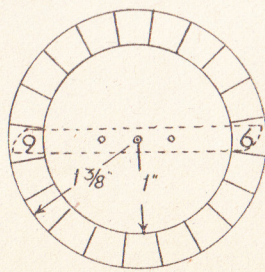

Fig. 3—Circle markings
Now press the lever to the left, and if all is O.K., the disc will be rotated to the left also. For discs (U) (units) cut two to the diameter in Fig. 3. It will be best here to describe the two circles on to paper and stick to the fretwood, leaving
Cut two of parts (E) and bore pivot holes at their exact centres. Fix these, one to each disc, to the back of the discs, in the position shown in Fig. 3, where the bar comes just behind opposite divisions. The parts, by the way, are cut from $\frac{3}{8}$ in. wood. Fit these discs to the backboard, with a thin brass washer under the heads of the screws.
crossbar (E) on the (U) discs, as shown in Fig. 3. The cover board can now be made.